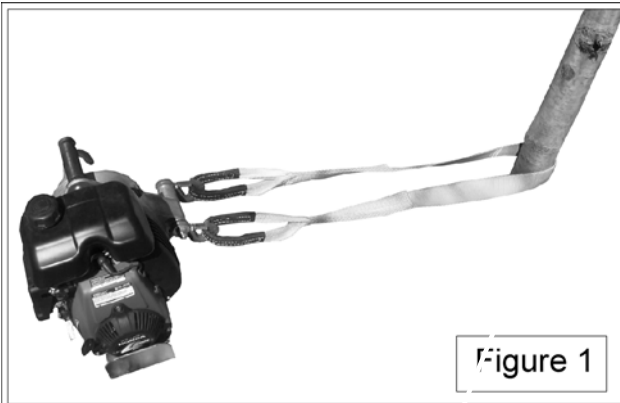

Figure 1
If you usually pull with a choker chain, use a grab hook (figure 1) or grab hook with latch (figure 2).
Go around the anchor point with the sling. Insert each end of the sling in one of the safety hooks located on the winch (figure 1).
**CAUTION** AVOID INSTALLING THE SLING ON SHARP EDGES THAT MIGHT DAMAGE IT. WHETHER YOU ARE USING A POST, A TREE OR A STUMP, ALWAYS INSTALL THE SLING NEAR THE ANCHOR'S BASE (FIGURE 1).
- 1) Push the safety hooks in the rectangular openings of the hitch plate (figure 1 next page). The rubber plate must be under the winch;
- 1) Slide the square tubing into the vehicle's receiver and secure it with both the hitch pin and the "R" pin (figure 1, no 1);
- 1) Place the tree/pole mount at the base of the tree or pole. Insert the sling's hook into the anchor point on the left (figure 1, no 1); then feed the sling's end through the ratchet system (figure 1, no 2);